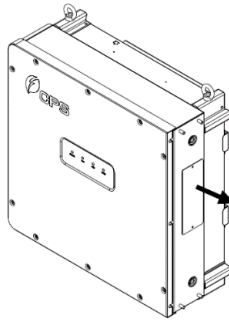
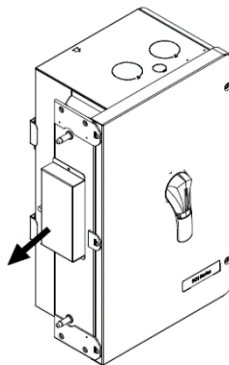
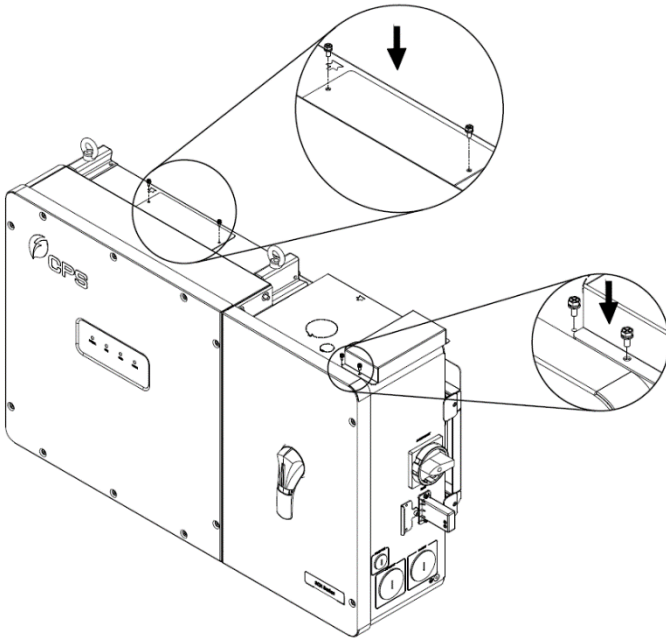

Figure 3-10 Remove the cover of Main Enclosure
Figure 3-14 Wire Box Cover
Figure 3-17 Attach the Cover to the top of the Inverter
Reserve the screws and cover (**Figure 3-10**).
- (4) **Install the wire box.** Tools required: No. 2 Phillips head screwdriver, 13mm hex head wrench.
- A. Remove the connector cover on the left of the wire box, Save the cover and screws (see **Figure 3-14**).
Attach the inverter's connector cover and wire-box connector cover shown in Figure 3-10 and Figure 3-14 to the top of the inverter and wire-box. (**Figure 3-17**)